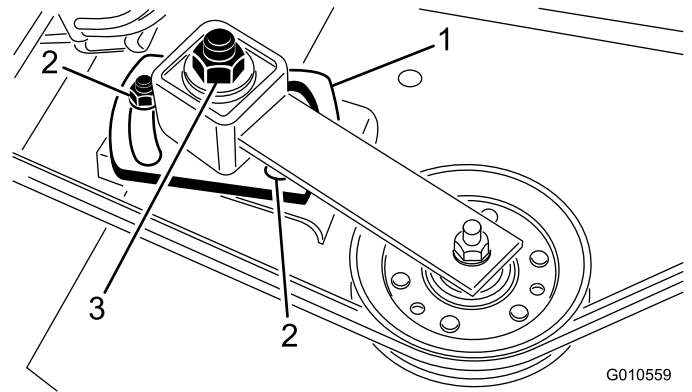

**Figure 45**
2. Remove the 2 bolts, locknuts, and springs that secure the deflector mounts to the pivot brackets (Figure 45).
3. To remove the pivot brackets, remove the carriage bolts and nuts (Figure 45).